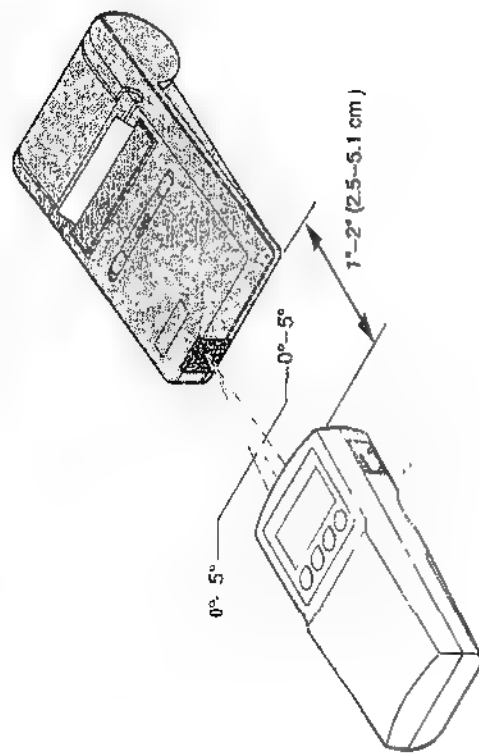

Figure 6: Aligning the NPB-40 and Printer
1. Place the printer and monitor on a flat, stable surface, oriented as shown in Figure 6